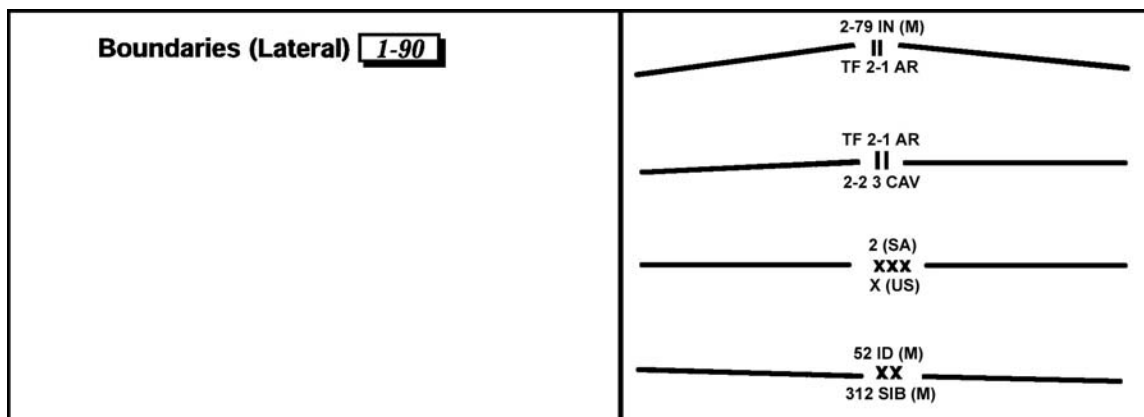

Figure 3. Lateral boundary.
- (6) Marked boundaries as follows: A symbol was placed on the boundary to show size and designation of the highest units that shared the boundary.
- (7) Showed units of unequal size, the symbols of the higher unit was shown and the designation of the lower was given completely to show its size. The boundary between the 52d Inf Diva and the 230th Inf Bde (Separate) is shown in Figure 3.